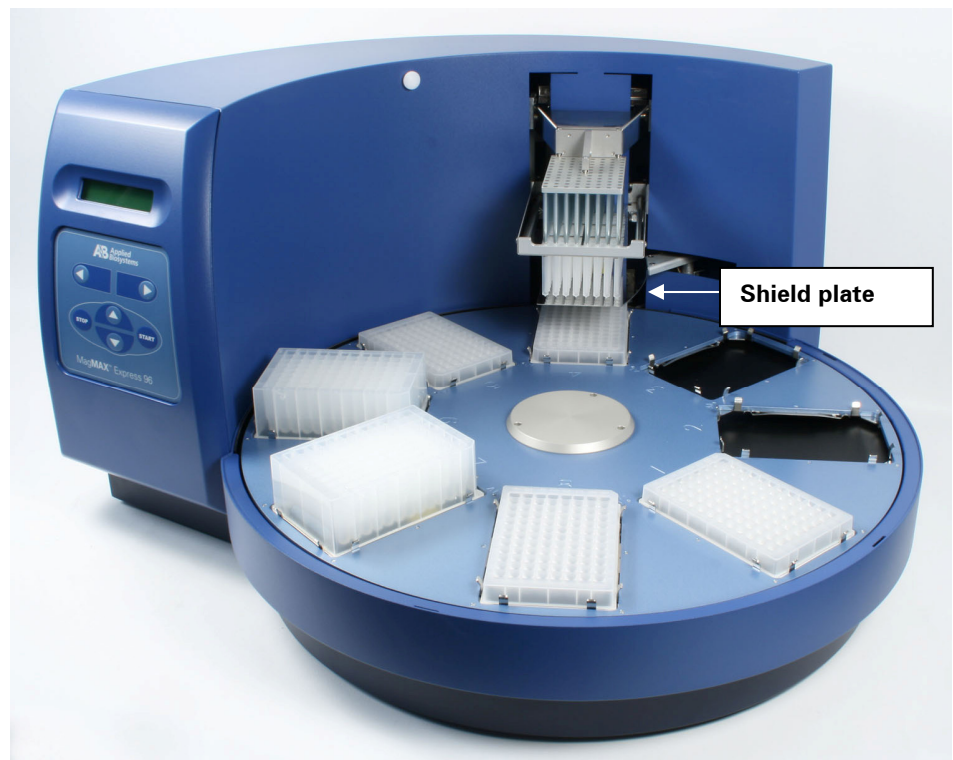

Fig. 6.11 Shield plate in function
5. When the turntable moves, the shield plate moves over the plate underneath (Fig. 6.11) forming a protective cover.